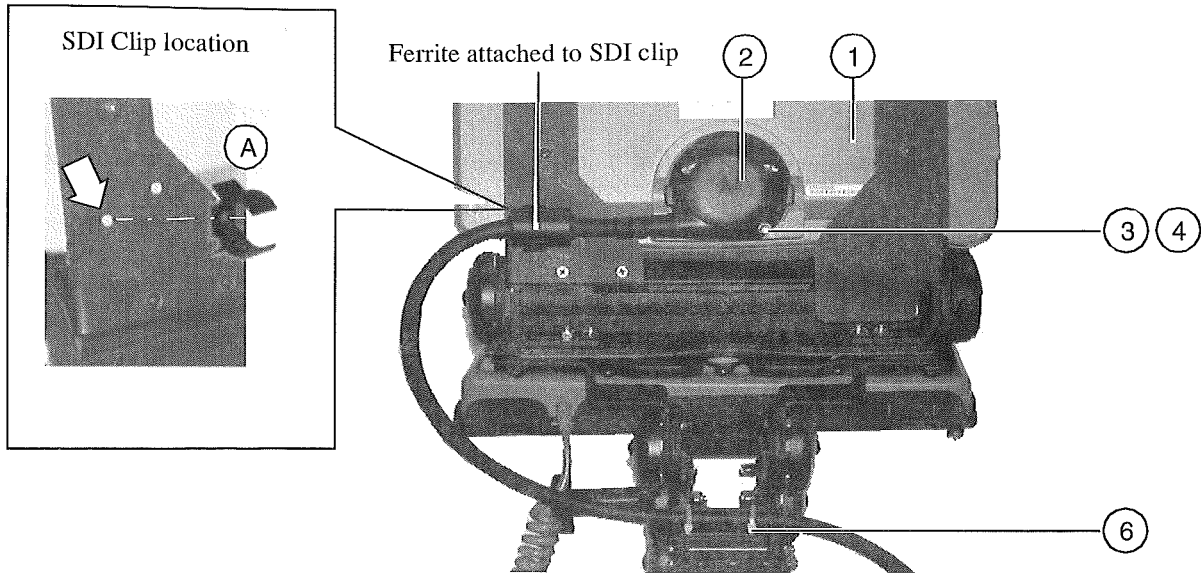

Figure 1
- Step 2.* Tighten the connector screws in place using screw and flat washer (items 3 & 4).
- Step 3.* For the SDI Mount, mount the SDI clip (item no. A) with the supplied screw and washer (all are found in SDI Mount bag) to the rear of the MW-520 Display as shown in figures 1 and 2.